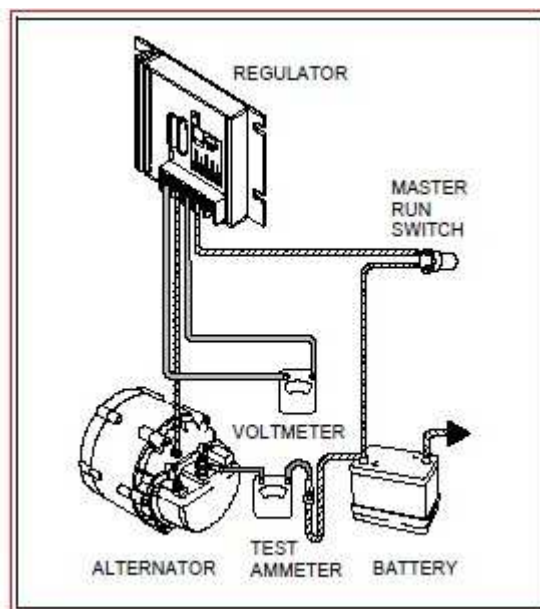

Figure 3: Voltage Regulator Adjustment Setup. (Delphi Voltage Regulator Shown)
- a. Delphi Voltage Regulator: Connect a voltmeter across the battery and ground terminals on the regulator, and clamp an ammeter around the DC cable at the alternator. Refer to Figure 3.